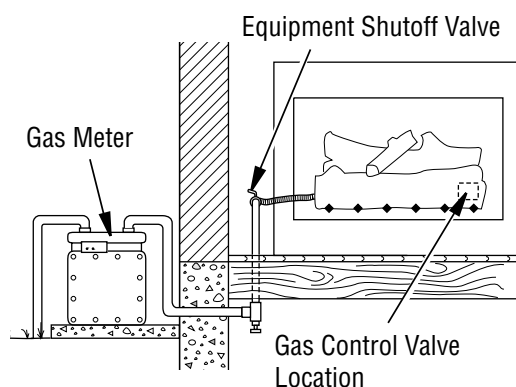

Figure 16 - Checking Gas Joints (Natural Gas Only)
1. Open equipment shutoff valve (*see Figure 16*).